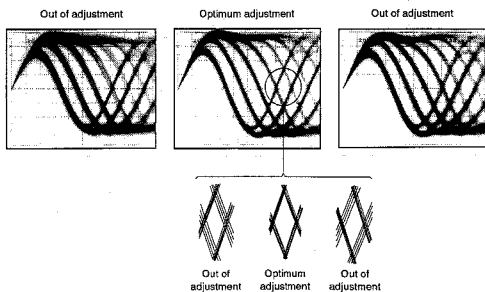

Figure 5 Eye pattern
3. Next, adjust the tangential tilt adjustment screw with a Phillips screwdriver so that the eye pattern (the diamond shape at the center of the RF signal) can be seen the most clearly (Figure 5).